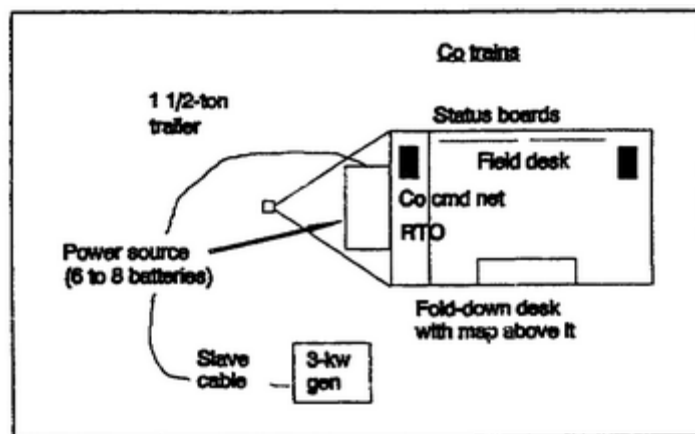

Figure 3-4. Unit trains CP.
(3) Secondary functions.
c. Unit trains CP. The unit trains CP (Figure 3-4) collocates with the TF combat trains or the division engineer administrative-logistical CP.